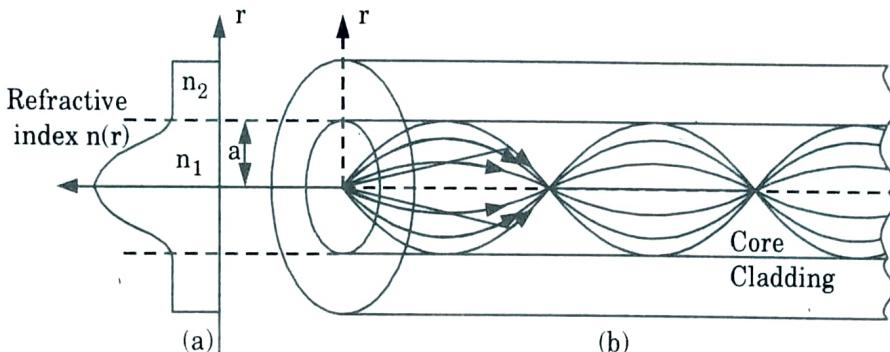

Fig. 1.21.2. The refractive index profile and ray transmission in a multimode graded index fiber.
5. A multimode graded index fiber with a parabolic index profile core is shown in Fig. 1.21.2. It is observed that meridional rays appear to follow a curved path through the fiber core.